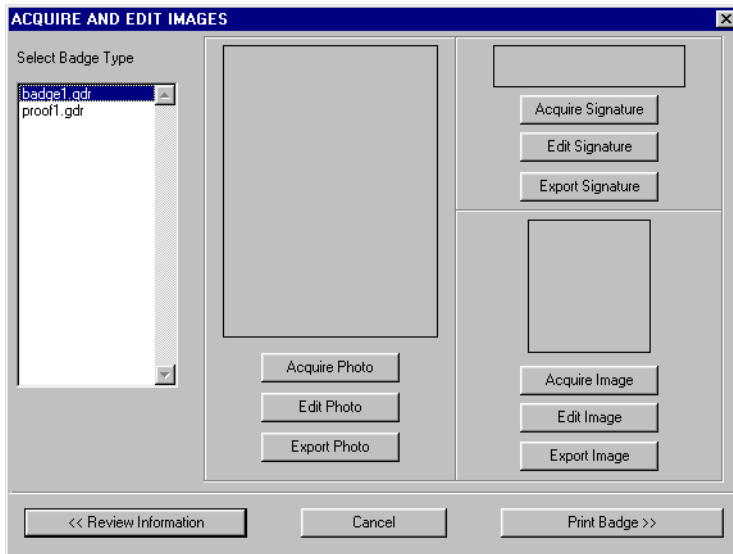

Figure 21: Acquire and Edit Images
1. Continuing from Step 7 and Figure 20 above, click the Badge Type you have chosen for this cardholder (see Figure 21 on page 20). These Badge Types are the templates created in the GuardDraw program (see Section 3.0 on page 4).